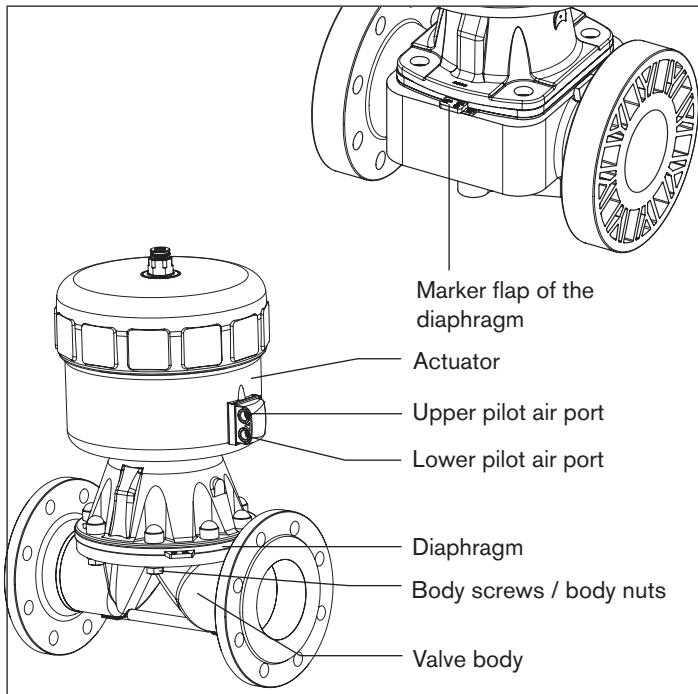

Fig. 14: Repairs
**The marker flap of the diaphragm must be perpendicular to the direction of flow (see "Fig. 14")!**
- Pressurize upper pilot air port of the actuator with compressed air (5 bar) (see "Fig. 14").